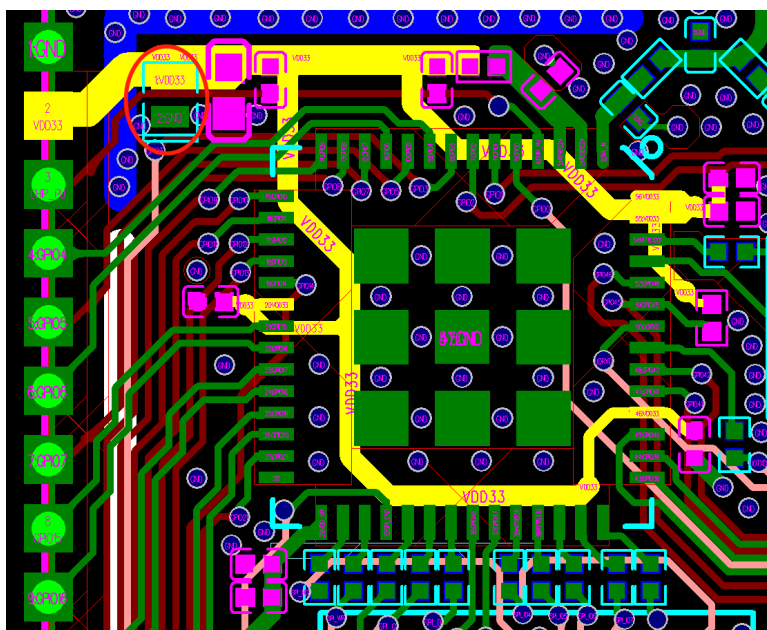

Figure 17: ESP32-S3 Power Traces in a Four-layer PCB Design
- The 3.3 V power traces, highlighted in yellow, are routed as shown in Figure 17. The width of the main power traces should be at least 25 mil. The width of the power traces for VDD3P3 pins should be at least 20 mil. The width of other power traces is preferably 10 mil.
- The ESD protection diode is placed next to the power port (circled in red in the top left quarter of Figure 17). The power trace should have a 10 μF capacitor on its way before entering into the chip, and a 0.1 or 1 μF capacitor could also be used in conjunction. After that, the power traces are divided into several branches using a star-shape topology, which reduces the coupling between different power pins. Note that all decoupling capacitors should be placed close to the corresponding power pin, and ground vias should be added close to the capacitor's ground pad to ensure a short return path.
In Figure 17, the 10 μF capacitor is shared by the analog power supply VDD3P3 and the power entrance since the analog power is close to the chip power entrance. If the chip power entrance is not near the VDD3P3 pin, it is recommended to add a 10 μF capacitor to both the chip power entrance and the analog power VDD3P3, and also reserve a 1 μF capacitor if space permits.
- If you need to add a thermal pad EPAD under the chip on the bottom of the module, it is recommended to employ a square grid on the EPAD, cover the gaps with ink, and place ground vias in the gaps, as shown in Figure 17. This can avoid chip displacement caused by tin leakage and bubbles when soldering the module EPAD to the substrate.